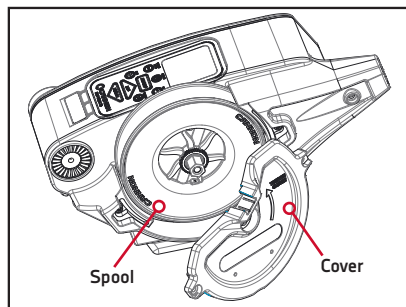

Figure 21
3. Remove the cover and you now have complete access to the spool. (Figure 21 & 22)